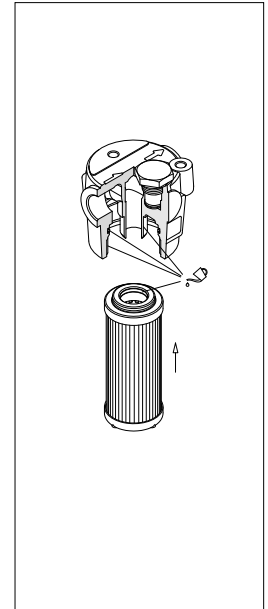

fig. 20
- (Fig. 20) Lubricate with the operating fluid the filter element O-ring, the housing tap and cavity, then fit the filter element on the tap. Pay attention not to damage the O-ring seal